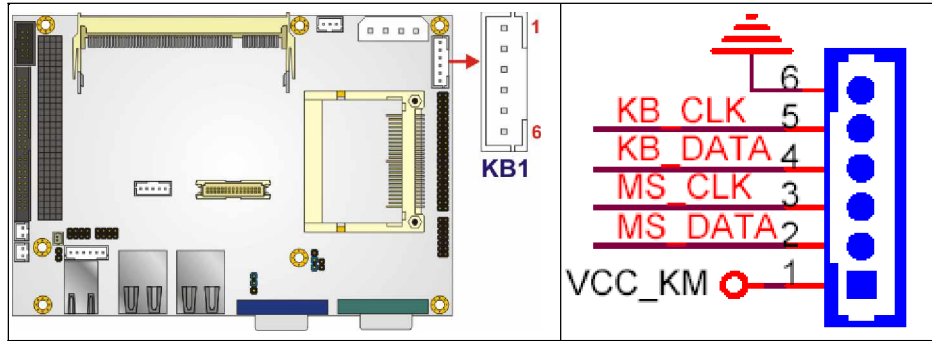

Figure 4-8: Keyboard/Mouse Connector Location
- CN Location:** See Figure 4-8